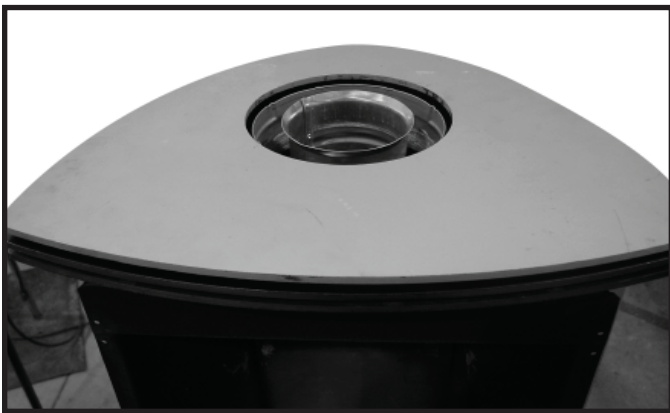

Figure 8.8
2. Remove the top plate with hole and discard. (Figure 8.8).